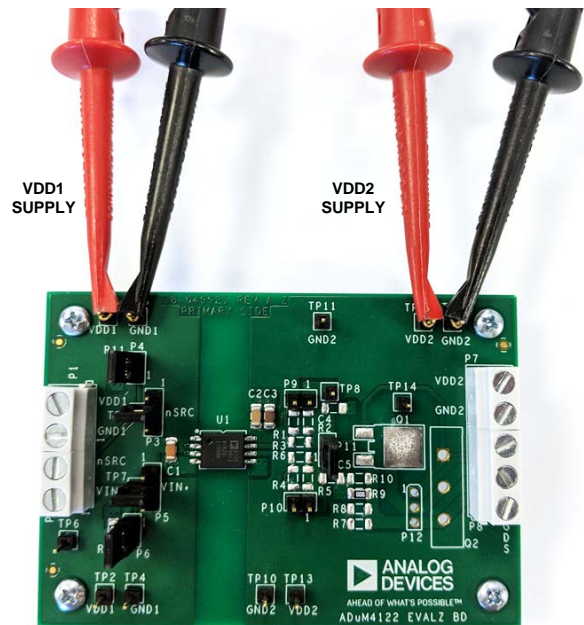

Figure 7. Power Supply Connections
1. Connect the input V_{DD1} supply (3.3 V to 5.5 V) to the V_{DD1} and $GND1$ pins (see Figure 7).
2. Connect the input V_{DD2} supply (4.5 V to 35 V) to the V_{DD2} and $GND2$ pins (see Figure 7).